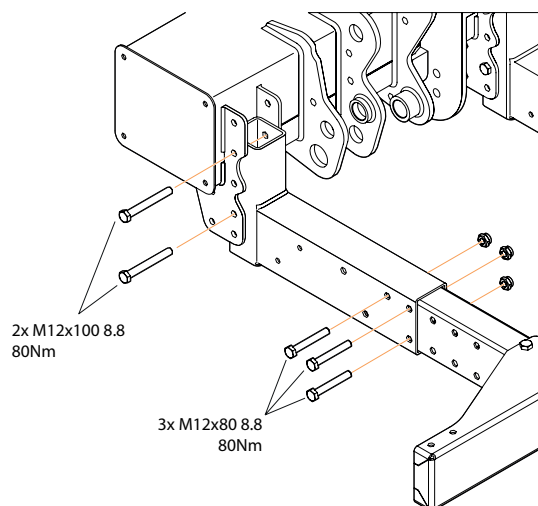

Figure 41. Installing underrun protection
1. Fit the inner part of each bracket at one of four heights. Select the height that meets the statutory requirements, see section "3.2 Statutory dimensions" on page 9. Use the corresponding bolts M12x100. Assemble without tightening the bolts, see Figure 41.
Use the associated bolts M12x80. Assemble without tightening the bolts. See Figure 41.